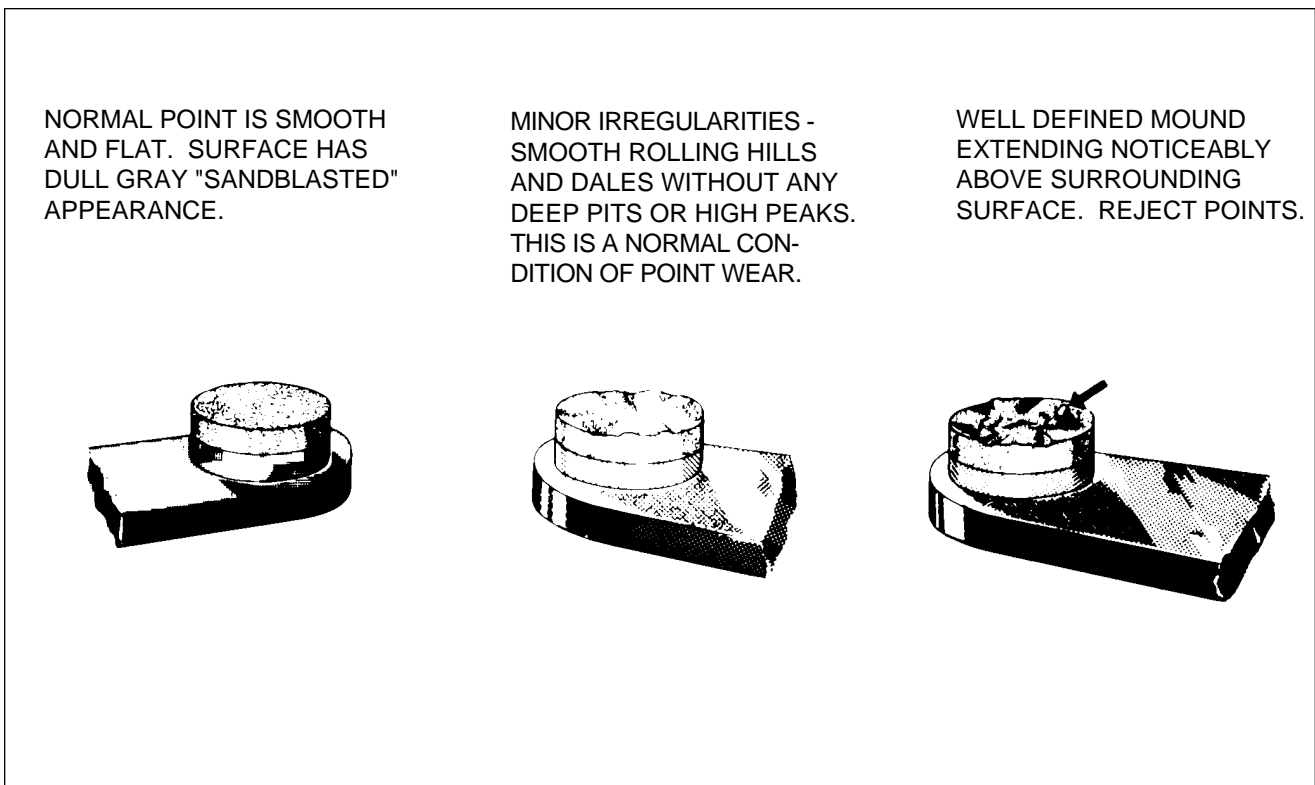

Figure 74-3. Contact Points
7. Remove the breaker cover and harness securing screws and nuts and separate cover from magneto housing. Check contact assemblies to see that the cam follower is securely riveted to its spring. Examine the contact points for excessive wear or burning. Figure 74-3 shows how the average contact point will look when surfaces are separated for inspection. Desired contact surfaces have a dull gray, sandblasted (almost rough) or frosted appearance over the area where electrical contact is made. This means that points are worn in and mated to each other, thereby providing the best possible electrical contact and highest efficiency of performance.
8. Minor irregularities or roughness of point surfaces are not harmful (refer to Figure 74-3, center), neither are small pits or mounds, if not too pronounced. If there is a possibility of pit becoming deep enough to penetrate pad, Figure 74-3, right, reject contact assembly.